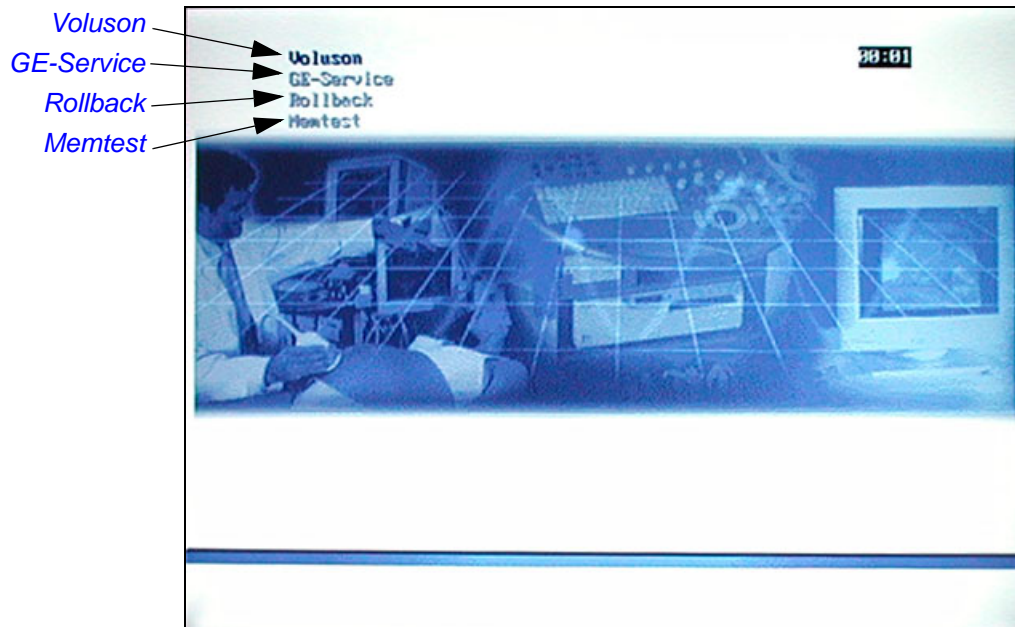

Figure 5-32 Boot screen
- 2.) As soon as the "Boot Screen" appears (see: Figure 5-32 on page 5-57), press the **PG DN** [↓ Arrow down] key on the keyboard until the **Rollback** item is highlighted, then press **ENTER**.
- 2.) As soon as the “Boot Screen” appears (see: Figure 5-32 on page 5-57), press the PG DN [↓ Arrow down] key on the keyboard until the **Memtest** item is highlighted, then press ENTER.